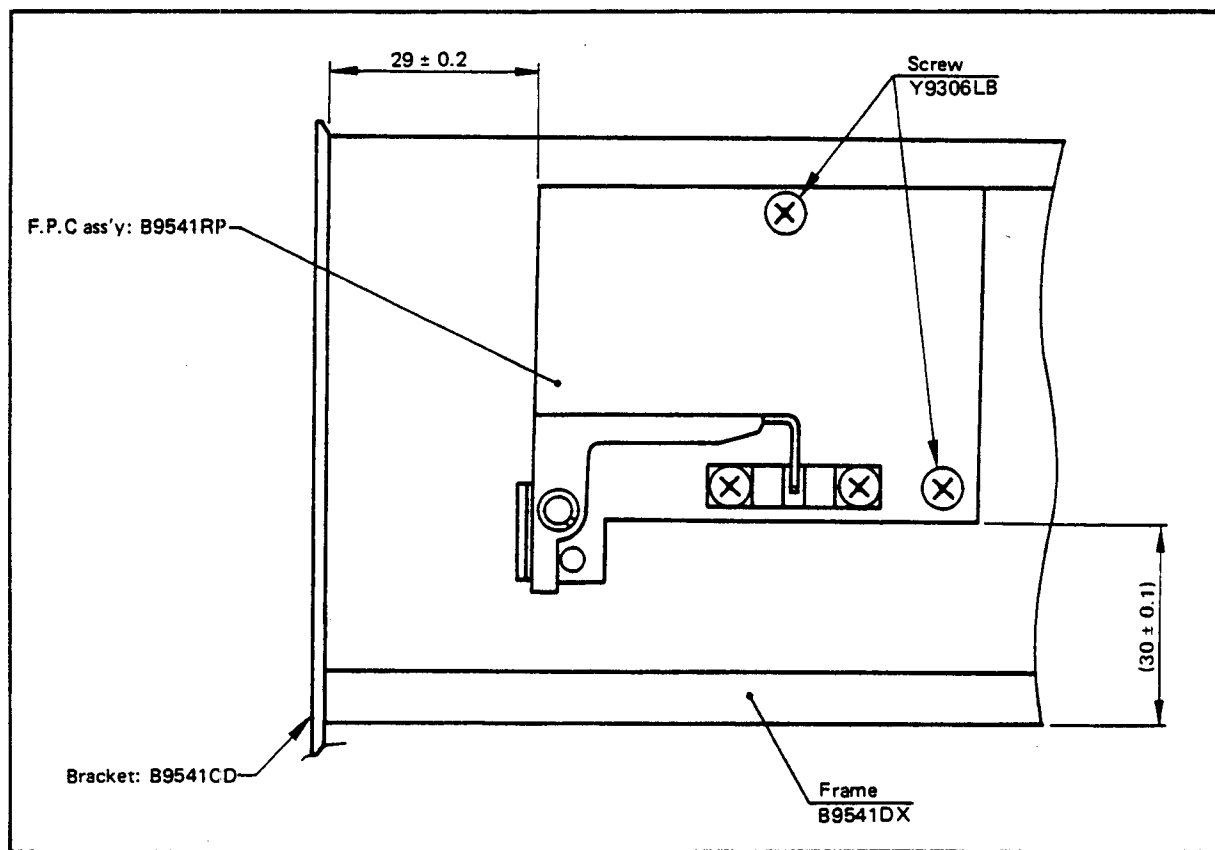

Figure 11-14.
- 2) Using two screws (Y9306LB), attach this assembly to the frame so that the position of the assembly relative to aluminum shaped frame (B9541DX) and bracket (B9541CD) is as shown in Figure 11-14.